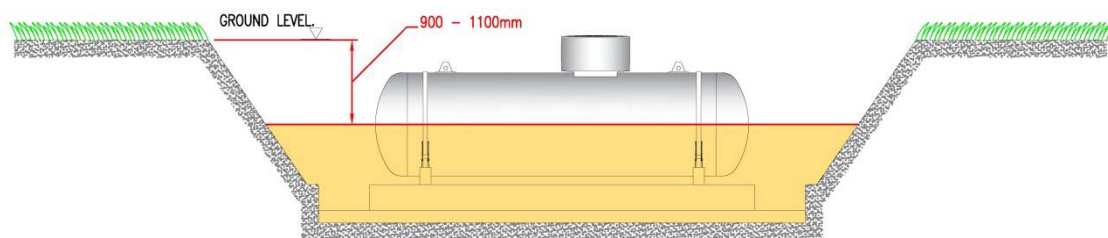

Figure 4.17.13 – Below ground tank excavation part backfill requirements
The excavation should be backfilled to a point halfway up the shell of the tank. The actual depth of the partly backfilled excavation will vary slightly depending on the size of the tank but should be between 900 and 1100mm as shown in Figure 4.17.13.
- c) Once the tank(s) are in position, we will wait for up to two hours* while your contractor backfills the excavation to a safe level as shown in Figure 4.17.13.